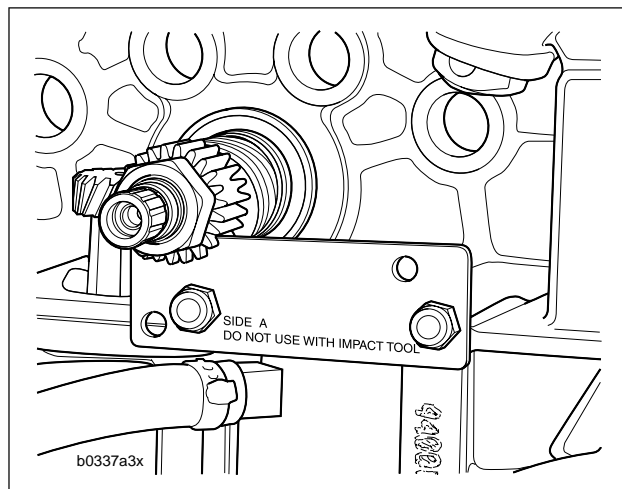

Figure 3-72. Crankshaft Locking Tool (HD-43984)
- b. See Figure 3-72. Install CRANKSHAFT LOCKING TOOL (Part No. HD-43984) to gearcase with "Side A" facing out, over pinion shaft, with two screws.